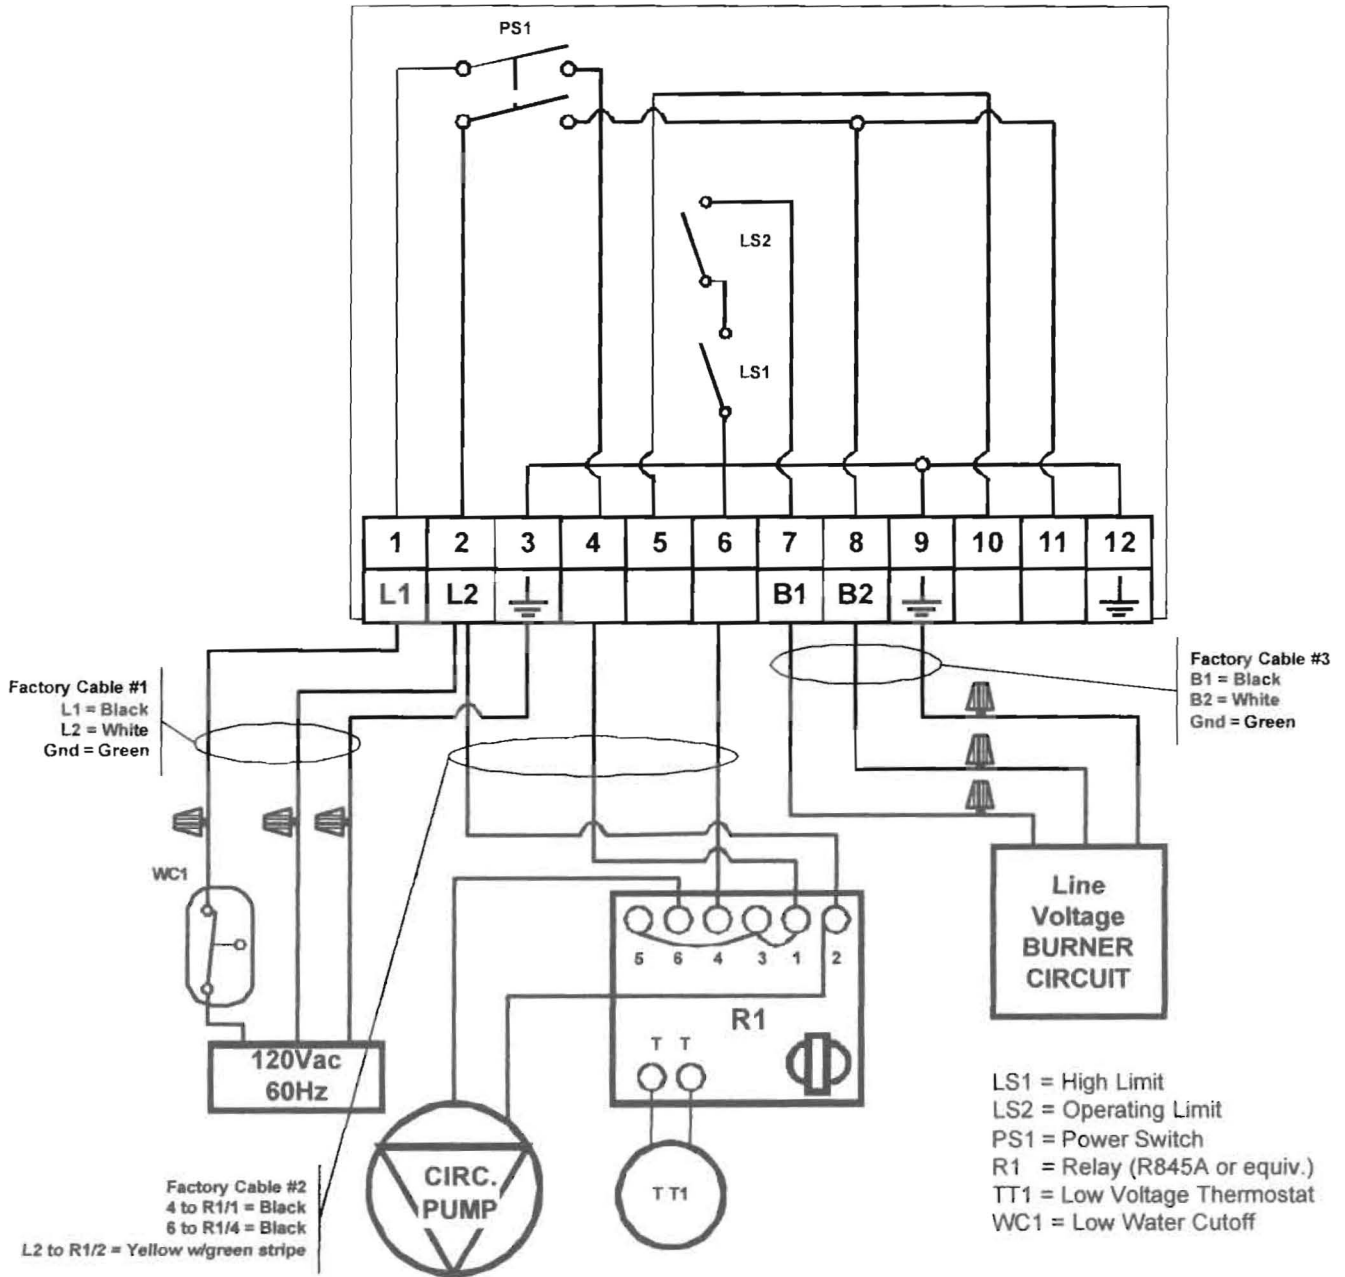
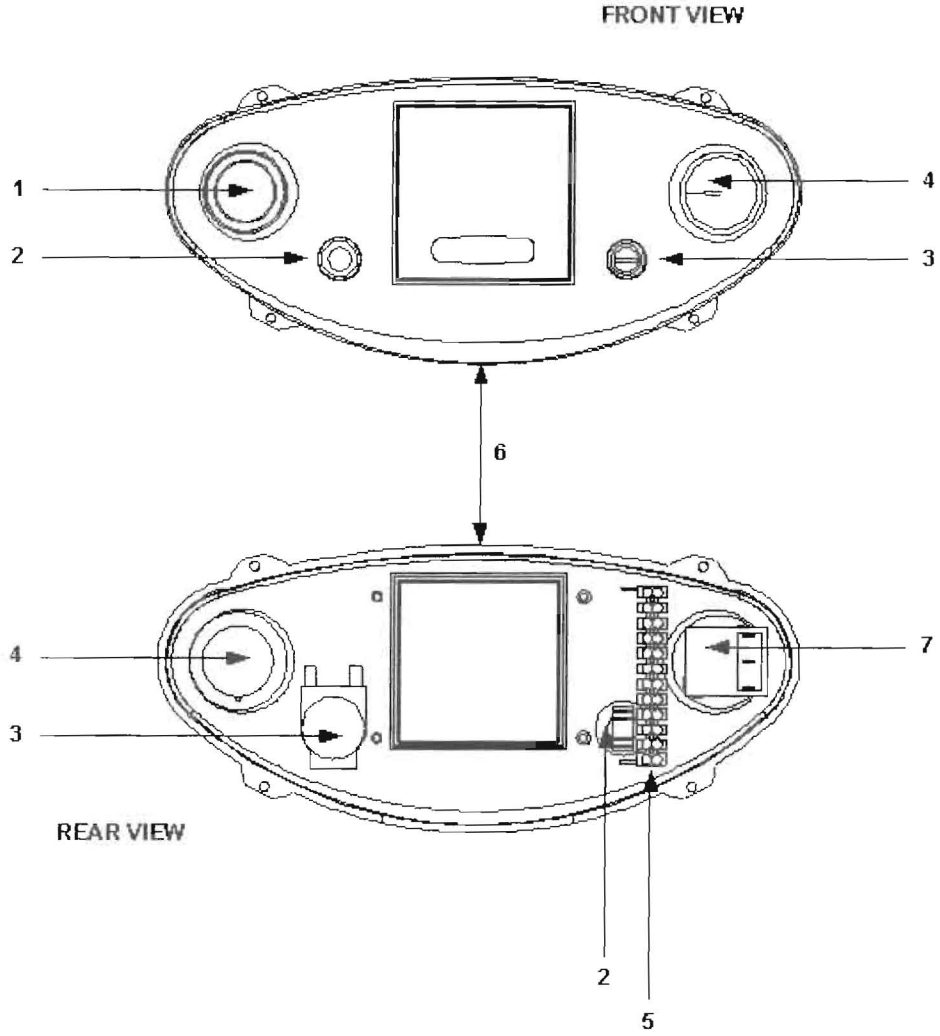

Figure 8
Figure 7
6. The PENSOTTI BLUELINE is supplied with the control package ordered by your dealer. A control panel, **Figure 7** is factory supplied and should be wired as shown in **Figure 8** for low voltage control of a line voltage operation.
The following diagram, **Figure 7**, calls out the use, placement and function of the BLUELINE front panel. **Figure 8** calls out the wiring of this panel to the system and mains.